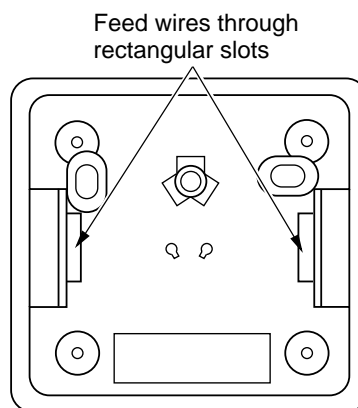

Figure 35 - Back View of Thermostat Base
6. Feed the electrical wires through the rectangular slots (from the back) on each side of the base (see Figure 35).